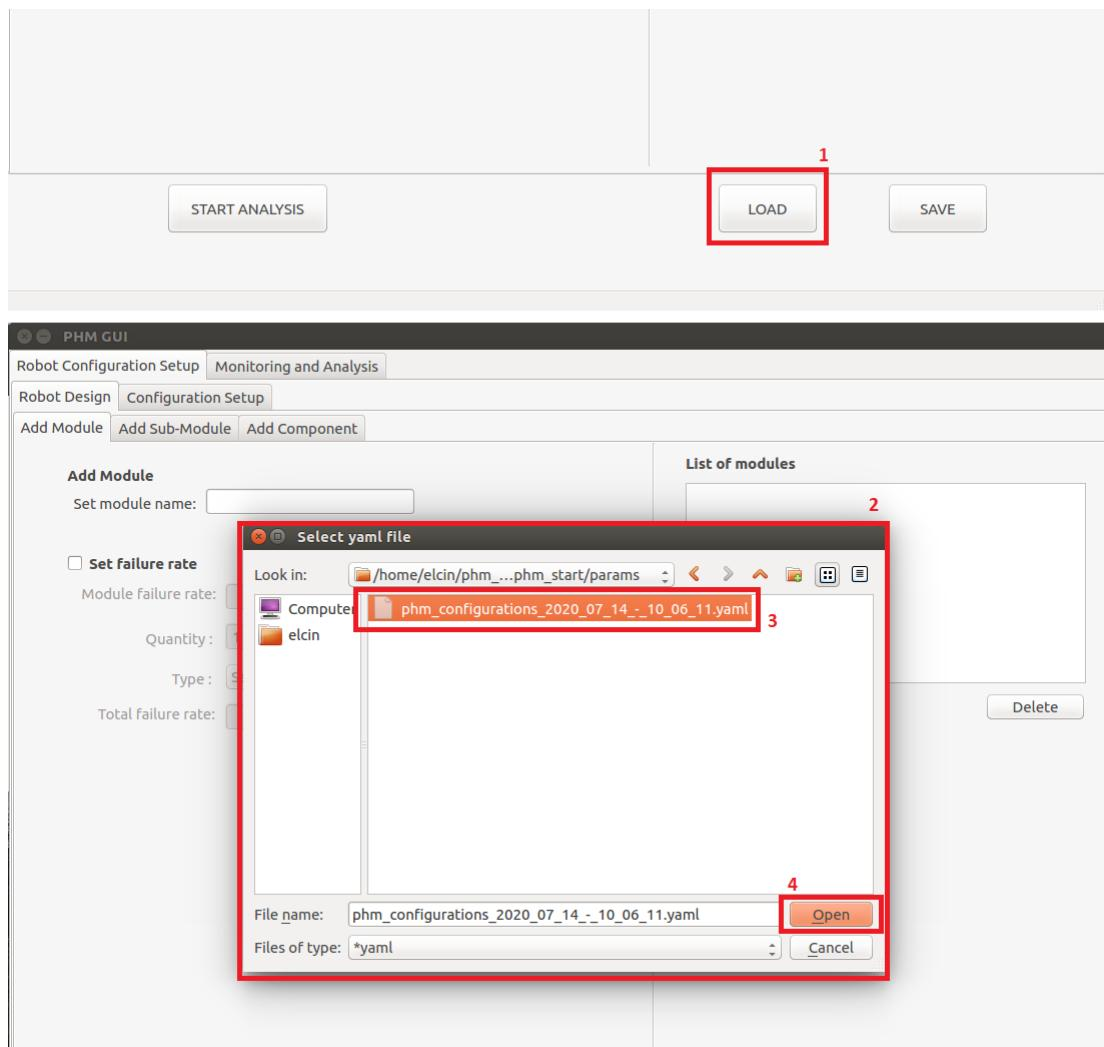
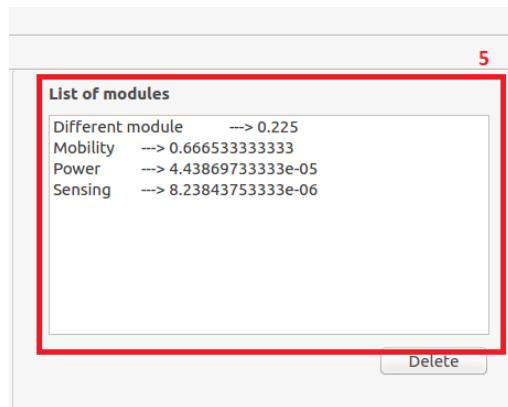

Figure 3.38 Loading the system from the selected directory
Figure 3.39 Modules in the loaded system
A saved system can be uploaded to PHM Tool when it is desired to be edited or analyzed later. The loading process is shown in Figure 3.38 and Figure 3.39.
- The loaded system can be seen in box 5 (Figure 3.39).